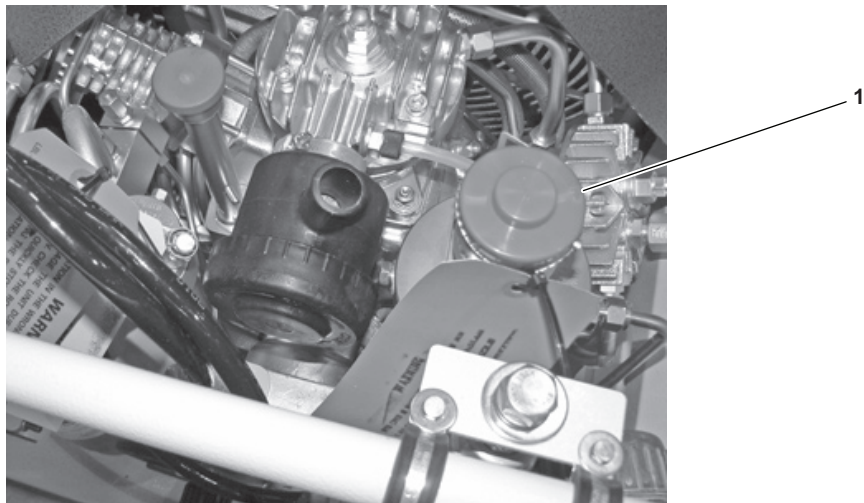
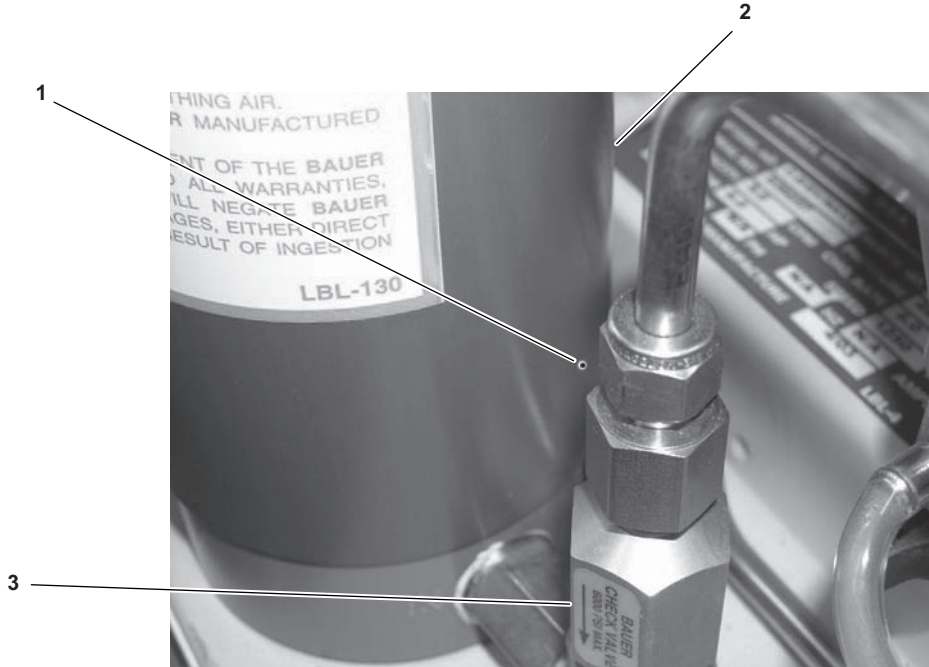

Figure 2-19. Third Stage Safety Valve
Figure 2-20. P1 Purification Chamber Weep Hole
- r. Allow the compressor to build pressure until the 3rd stage safety valve (figure 2-19, item 1) lifts. This confirms that the system is fully pressurized and has no leaks.
- s. If the 3rd stage safety valve (figure 2-19, item 1) does not lift, place a hand at the weep hole (figure 2-20, item 1) on the P1 purification chamber (figure 2-20, item 2) and feel for airflow. The weep hole is located on the check valve (figure 2-20, item 3) side of the P1 purification chamber, about 2 inches from the bottom. If airflow is felt, the P1 purification cartridge is not properly seated. Refer to paragraph 2.3.2.h for the procedure on installing the purification cartridge.